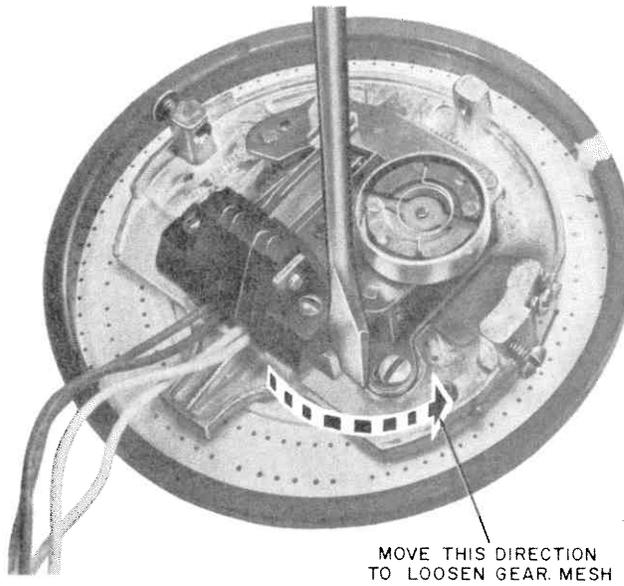

Fig. 28 — Using Screwdriver to Loosen Gear Mesh
- (3) To loosen gear mesh, place screwdriver blade between contact spring-block mounting support and gear train assembly (Fig. 28). Twist blade enough to slightly move the assembly. Test dial each time the assembly is moved using methods described in steps 4 through 7 in 3.32.
- (4) Tighten screw A when adjustment is completed.
- (5) Dial a series of zeros to test dial.
- (6) If dial still does not operate properly, reassemble dust cover and replace dial.
- (7) If dial operates properly, replace dust cover.
- (8) Reassemble dial.